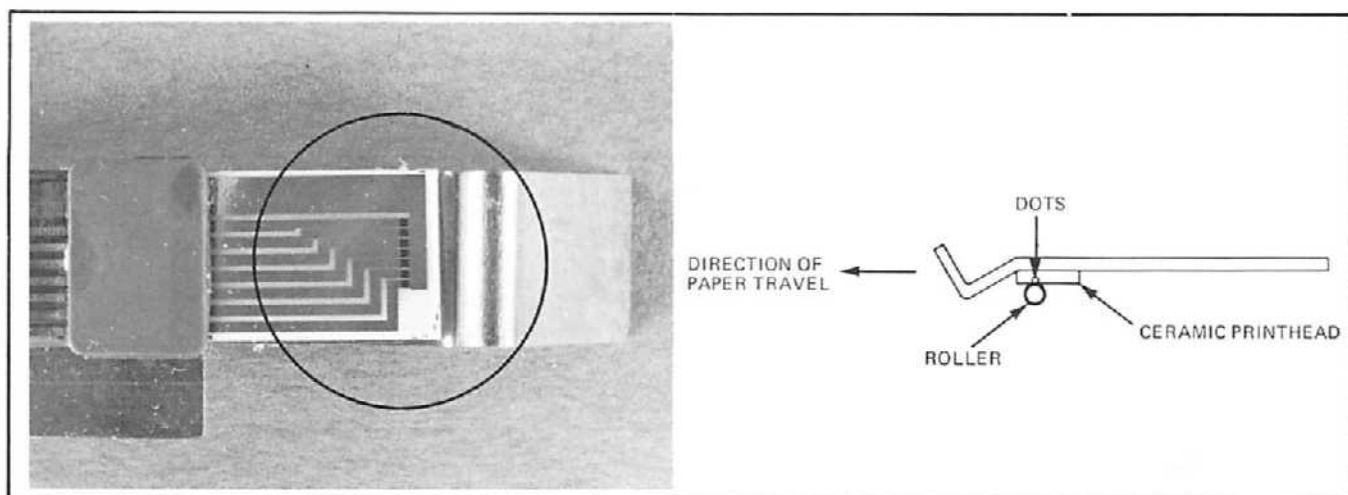

Figure 4-22. Detail of Print Head.
1. The printhead is a ceramic block which is attached to the stainless bar (see Figure 4-22).